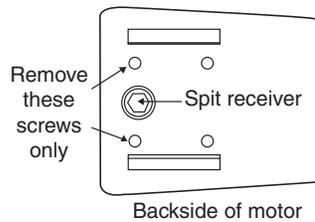

Fig. 1
- Remove the two small screws from the motor casing (Fig. 1). Holding the motor bracket offset tab away from the motor, place the bracket against the motor casing, aligning the spit receiver with the 3/4" bracket hole. If the spit receiver is not centered in the 3/4" hole when the screw holes are lined up, rotate the bracket (180°) in the opposite direction. Replace and tighten the screws.